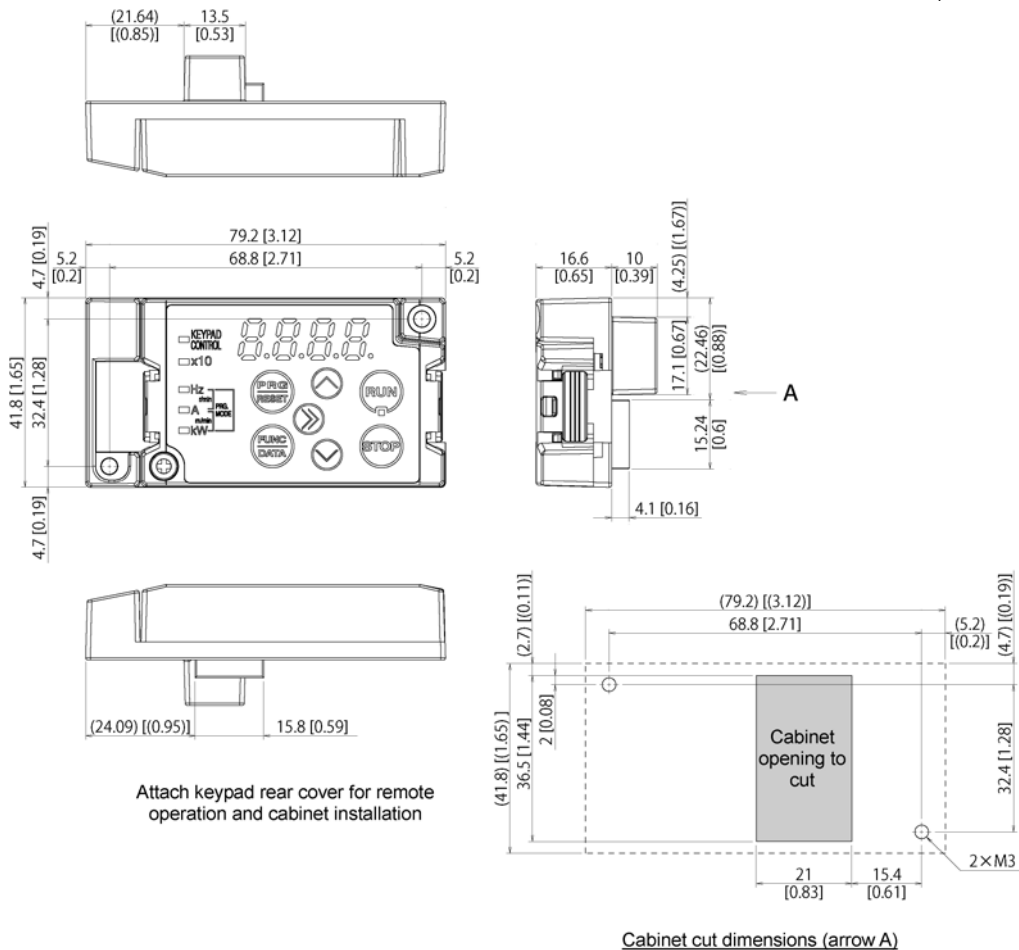

Figure 2.3-6 Fixing Screw Positions and the Dimensions of the Cabinet to Cut
- (3) Cut the cabinet to attach the keypad, as shown in Figure 2.3-6.